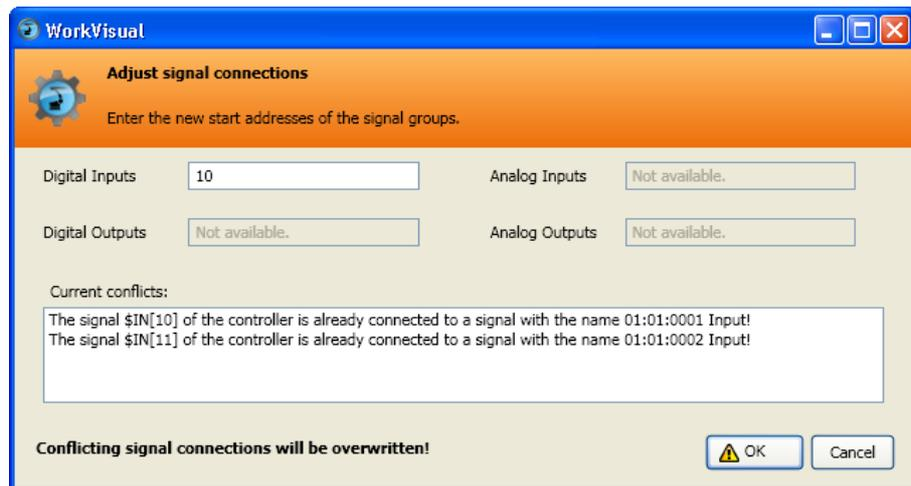

Fig. 6-4: Adjust signal connections
6. If I/O connections were transferred together with the device, the **Adjust signal connections** window is opened. (>>> Fig. 6-4)